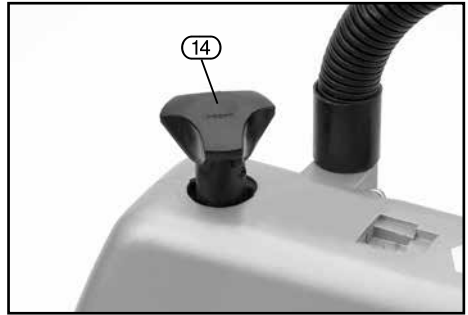

FIG. 6
9.5 REMOVING AND REFITTING BLADES – FIGS. 6 & 7